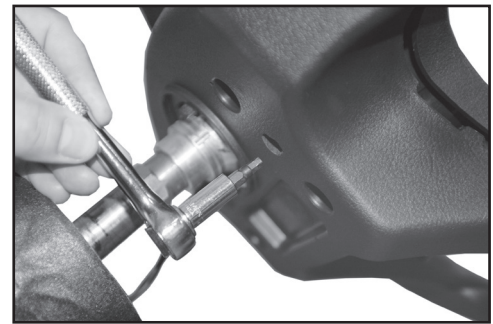

Figure 6 (Shown with gap hider removed for clarity)
7. Using special drive tool with a 3/16" Allen wrench tip, tighten the two 1/4"-20 fasteners. Access to the fasteners is gained from the back side of the steering wheel through two access holes. It may help to place the steering wheel telescopic adjustment to its highest positions. **See Figure 6.**